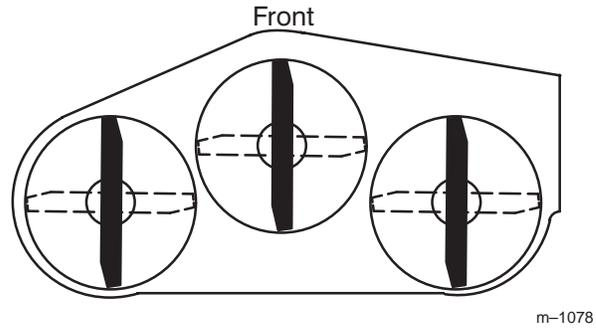
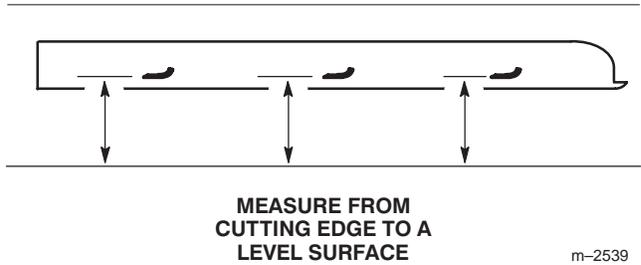

Figure 8
Figure 9
1. Rotate the blades until the ends face forward and backward (Fig. 8). Measure from a level surface to the cutting edge of the blades (Fig. 9). Note this dimension.